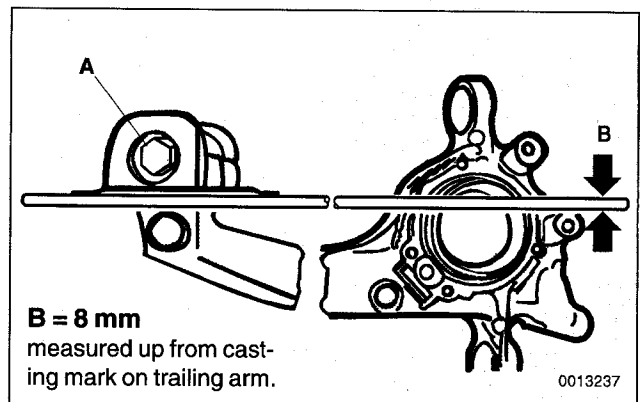

Fig. 21. When installing trailing arm front bracket using 8mm bar stock.
5. If front bracket bushing was replaced, align front bracket before tightening bolt. See Fig. 21.